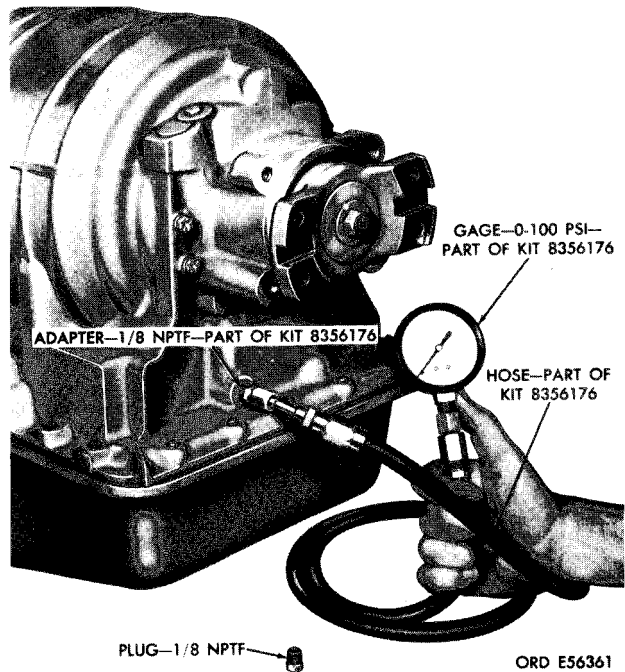

Figure 5-144. Pressure gage attached to 1/8 NPTF pressure check point (gage, adapter, and hose are part of kit 4910-572-8612 (8356176)).
(3) The 0-100 psi gage, hose, and fittings from oil gage kit 4910-572-8612, and the method of attaching are shown in figure 5-144.